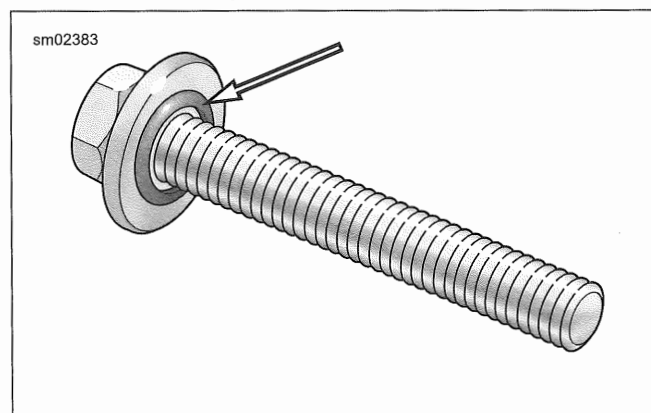

Figure 5-28. Primary Chaincase Sealing Screw
- a. See Figure 5-28. Install **new** sealing screws.